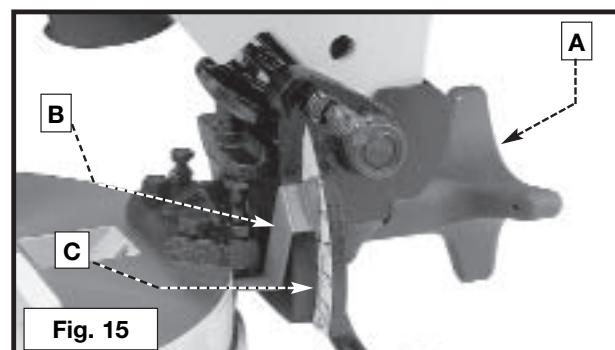

Fig. 15
The cuttinghead of your compound miter saw can be tilted to cut any bevel angle from a 90° straight cut off to a 45° left bevel angle. Loosen bevel lock handle (A) Fig. 15, tilt the cutting arm to the desired angle, and tighten the lock handle (A).
**DEGREE BEVEL STOPS.**" The bevel angle of the cutting arm is determined by the position of the pointer (B) Fig. 15 on the scale (C).